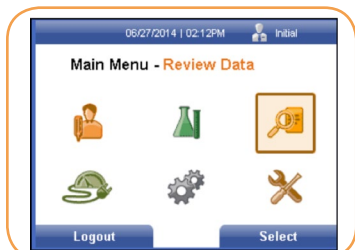

FIGURE 61
1. From the Main Menu, select the Review Data icon by using the [↓] or [↑] or [←] or [→] keys to highlight/select it (Figure 61).